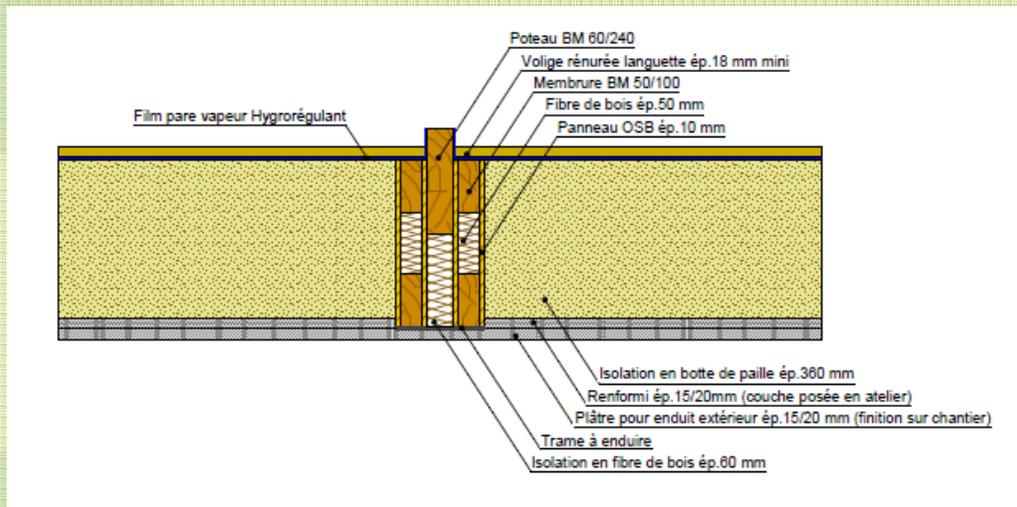

Figure 2
**Vertical panels (wall, figure 2)**